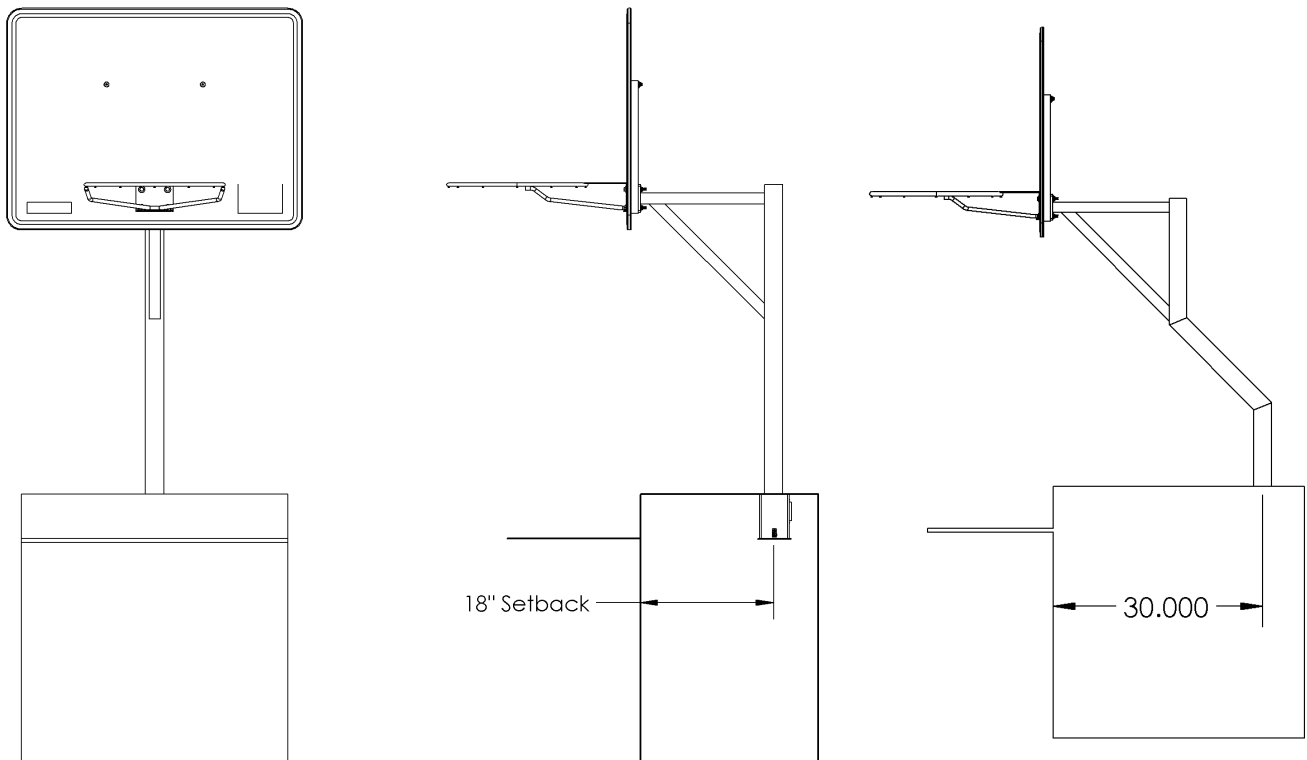

Fig. 7
4. Basketball units are to be anchored to the deck using a 6 inch deep 27-107 anchor. Install the anchor in the pool deck 18 inches back, shown in **FIGURE 7**. Properly bond the anchor using the attached bonding screw and the appropriate bond wire per local codes. Allow concrete to cure before installing the Basketball unit.